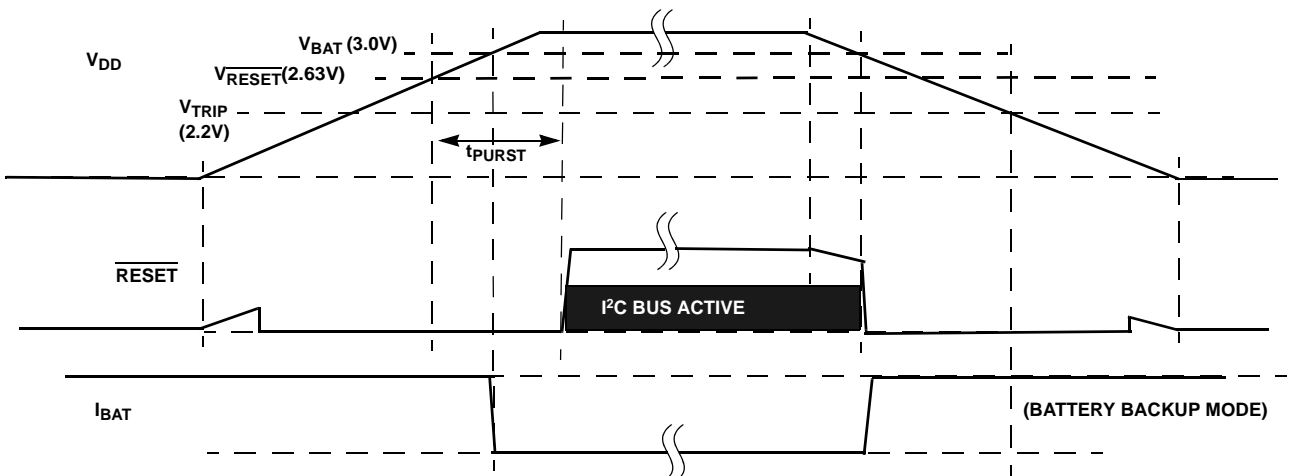

FIGURE 30. RESET OPERATION IN MODE D
- Mode D - In this mode, the selection bits indicate switchover to battery backup at  $V_{DD} < V_{BAT}$ , and no I2C communications in battery backup. This mode is unique in that there is I2C communication as long as VDD is higher than  $V_{\overline{RESET}}$  or VBAT, whichever is greater. This mode is the safest for guaranteeing I2C communications only when there is a Valid VDD (see Figure 30).